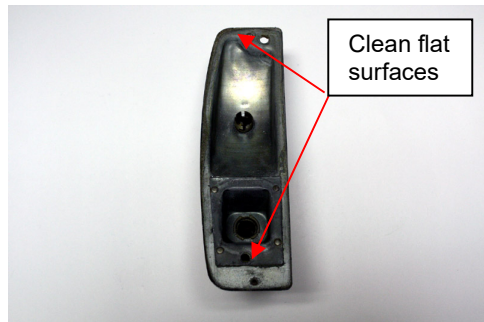

Figure 1
2. Clean the flat surfaces on the inside of the housing. (See Figure 1) Note: These surfaces must be clean and dry to assure the best adhesion of the mounting tape that will hold the LED panels in position.